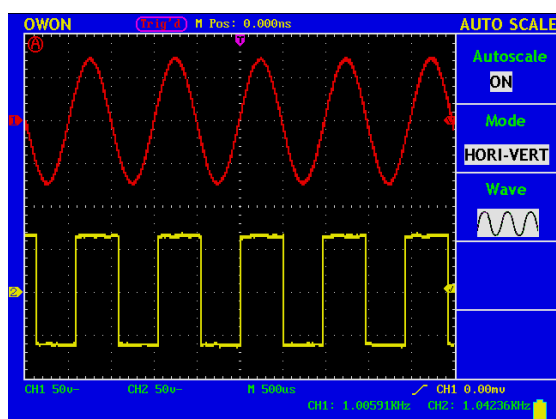

Fig.76: Multi cycles mode
4. Press **F3** to choose  and press F3 to change to . See Fig.76/77 for details.